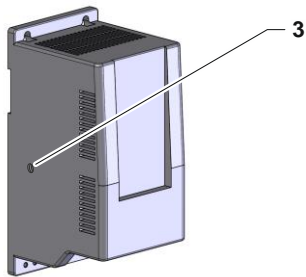

Fig. 3: Device version UL
- Remove the screw (Label 3 → Fig. 3) from the replacement frequency converter (U 1).